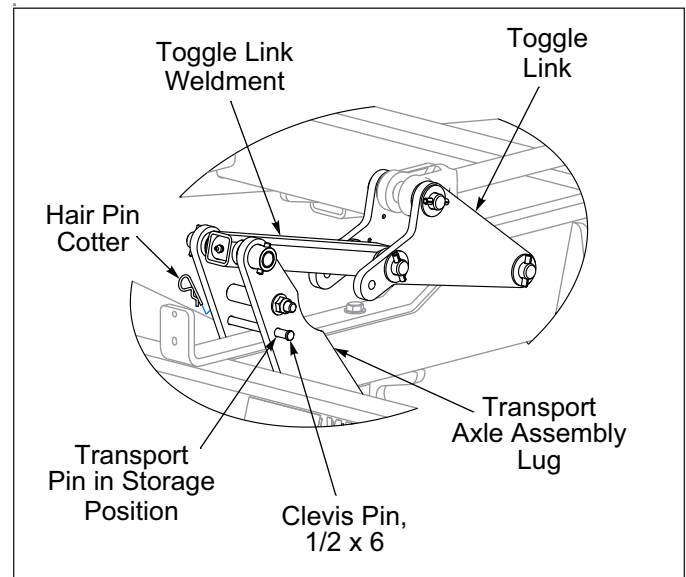

Figure 3-7: Transport Pin in Storage Position
3. Store the Clevis Pin in the Transport Axle Assembly Lugs. Secure with Hair Pin Cotter. **See Figure 3-7.**
2. Remove the stored 1/2 x 6 Clevis Pin and Hair Pin Cotter that will be used as the Transport Lock from the Transport Axle Assembly Lugs. **See Figure 3-7.**